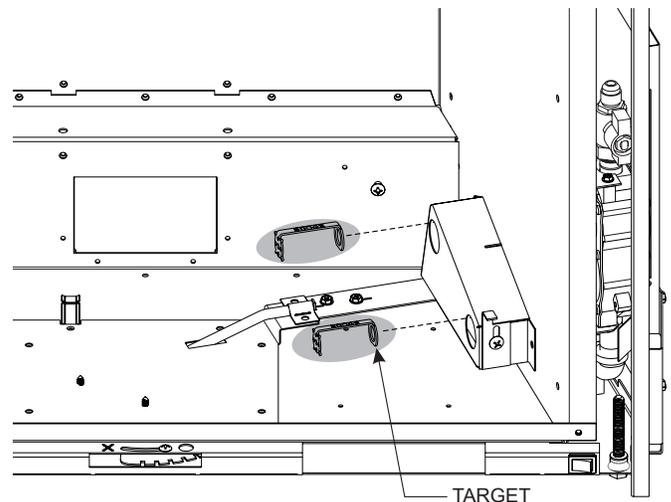

Figure 6
6. Use needle-nose pliers to remove targets by rotating them counterclockwise and discard. See Figure 6.